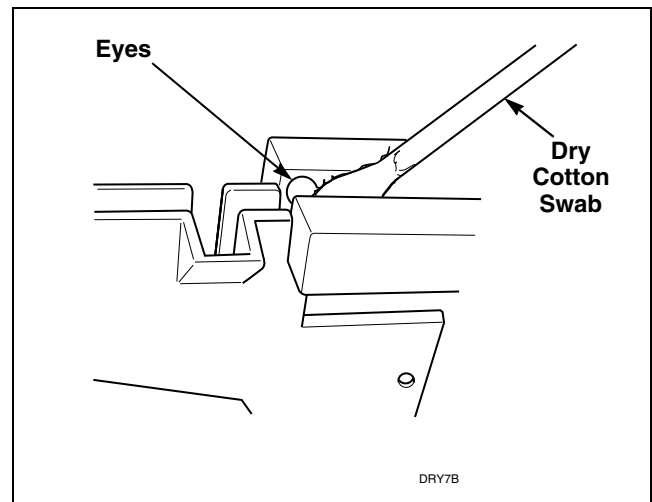

Figure 24
- j. Check coin drop sensor for dust or dirt on eyes. Wipe eyes with dry cotton swab. Refer to *Figure 24*.